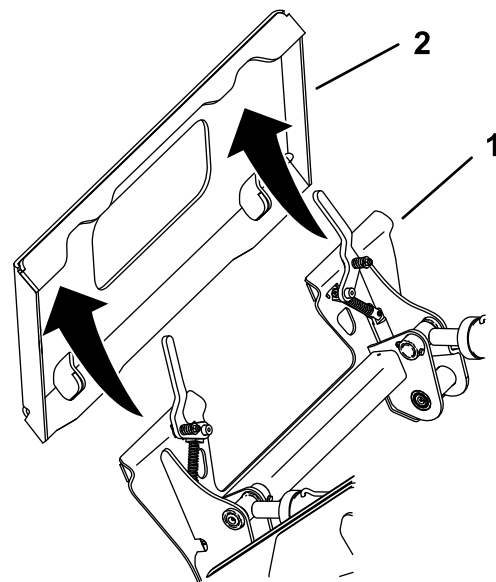

Figure 28
5. Position the mount plate into the upper lip of the attachment receiver plate (Figure 28).